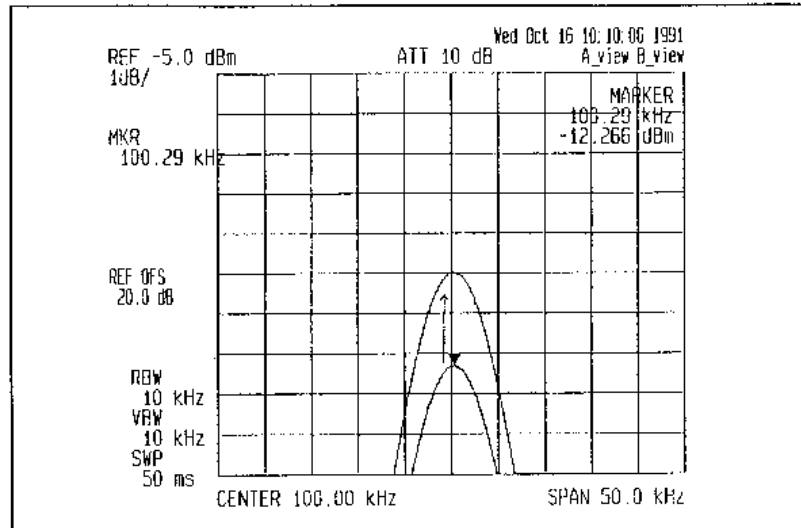

Figure 5-3 Waveforms before Probe Calibration
- (5) Change the connection as shown in ⑬ of Figure 5-1. An example of waveforms is given in Figure 5-3.